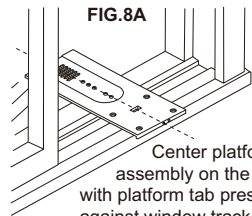

FIG.8A
- 6 Center platform assembly** on the line with inside platform tab pressed against inside edge of window track as shown (FIG.8A, FIG.8B). Using the holes in the platform as a guide, mark and drill two 9/64" diameter holes. Drill holes in either track or stool.